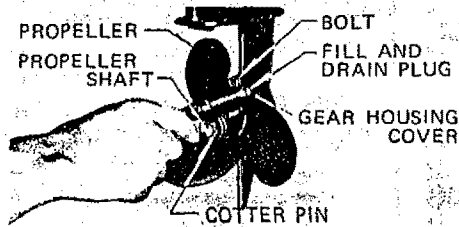

Figure 2
a. The Gear Housing has been pre-lubricated at the factory; however, the grease level should be checked as follows using SAE 90 outboard motor grease. (See Figure 2).
- (1) Prior to initial operation.
- (2) After first four (4) hours of use.
- (3) Recheck after every fifty (50) hours running time.
- (4) Replace with new lubricant at the end of your outboard motor season. This is important, as it removes any water from the gear housing and prevents possible corrosion to internal parts.